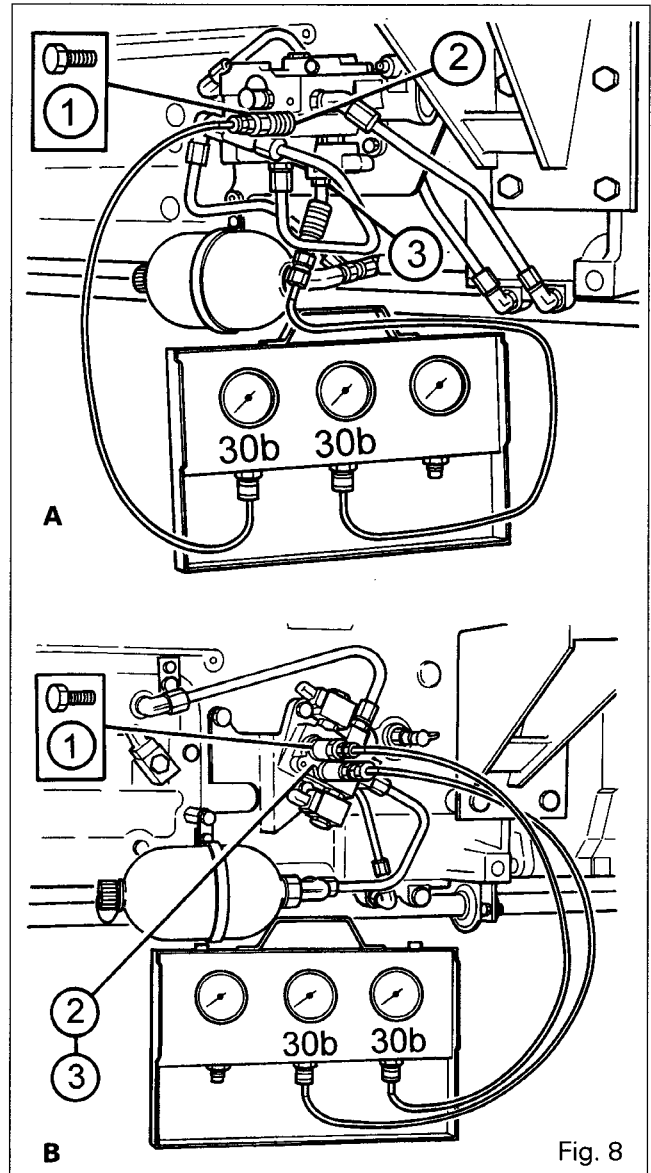

Fig. 8
**Hydraulics - Dynashift control****B . Piston pressure check (Fig. 8)**
2. Screw on two male couplers **(2)** and **(3)**, ref. 3384387 M1, and connect them to couplers ref. 3582045 M1, connected to pressure gauges with a capacity of 30 bar approx.